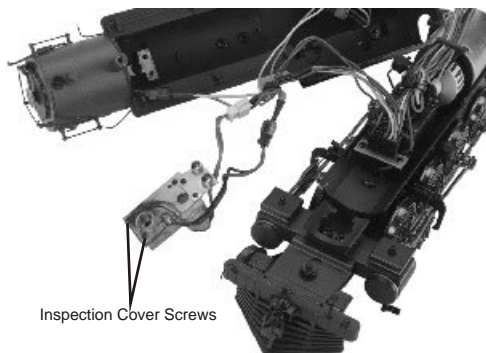

Figure 18
1. Once the boiler has been removed, remove the inspection cover (See figure 18). Inspect the wick; if it is darkly discolored and hard, it should be replaced.